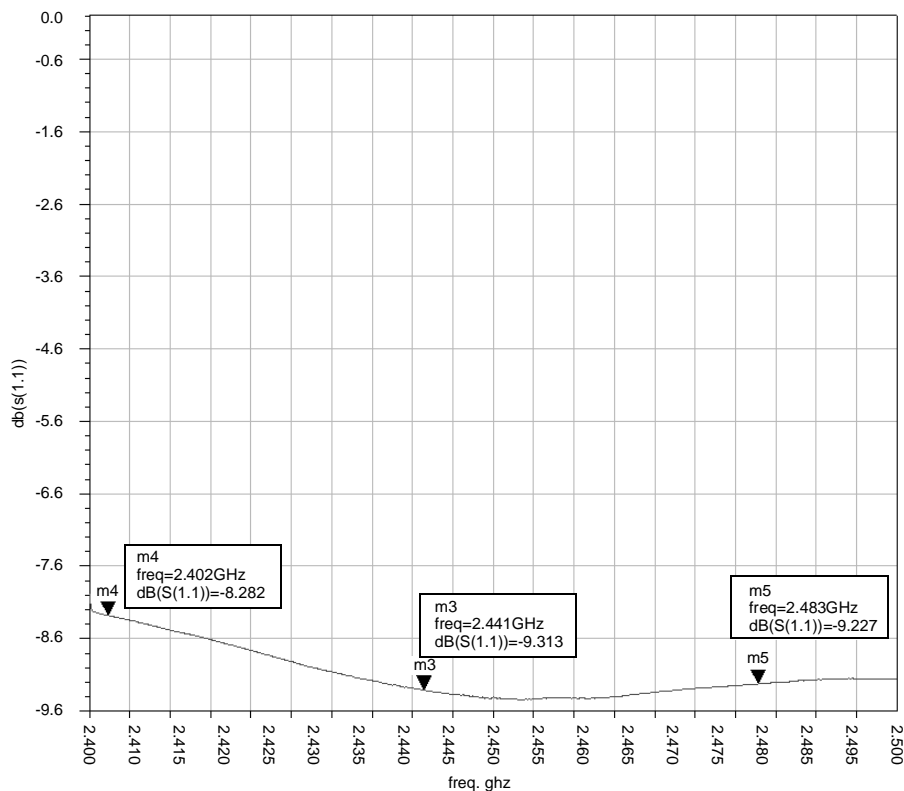

Figure 9. Transceiver Return Loss
5. Reference chart Figure 9 on page 14.
8. Reference chart Figure 9 on page 14.